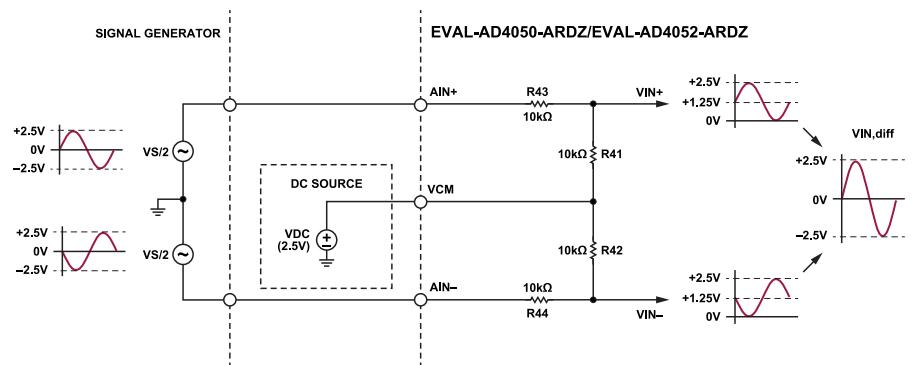

Figure 14. Bipolar Differential Signal Generator Example
- ▶ For signal generators with bipolar, differential output swings (signals that go below GND), the VCM input provides a means to apply the necessary DC offset to satisfy the input range specification of the MAX44260 amplifiers. Figure 14 gives an example with a 2.5 V VREF and amplifiers in unity-gain configuration. The signal source (VS) is 5 V peak or 10 V p-p and VCM is 2.5 V DC.